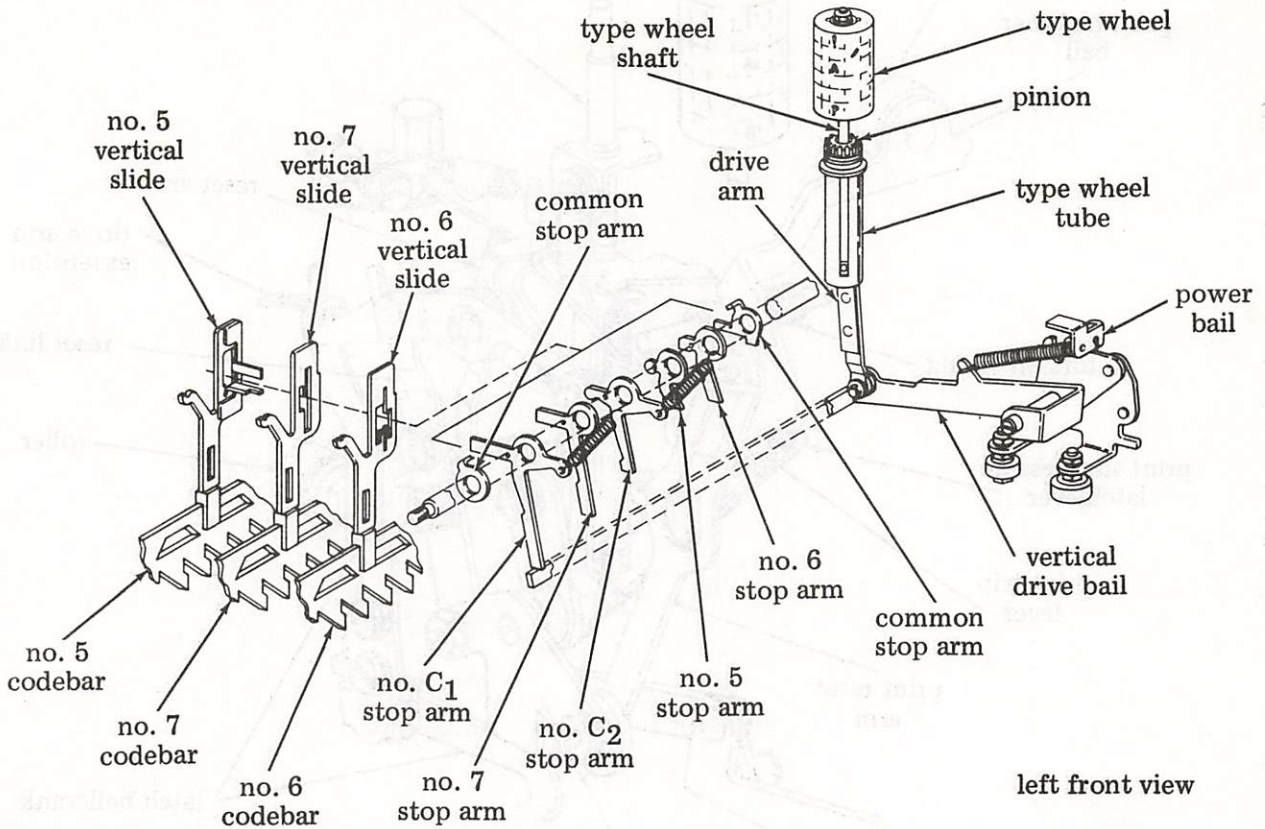

Figure 29 - Vertical Positioning Mechanism
4.68 The vertical positioning mechanism, illustrated in Figure 29, positions the type wheel so that the proper character in the selected row is in the printing area at the time of printing.
4.71 When a code combination is received in which the no. 5, no. 6, and no. 7 pulses are spacing, the corresponding codebars and their respective slides remain down (spacing), and no motion is transferred to the stop arms. As the rear extension of the vertical drive bail rises, it strikes the C₁ stop arm, which is the longest (Figure 29). This permits the type wheel to be raised to the point where the first character in the selected row is in the printing area at the time of printing.